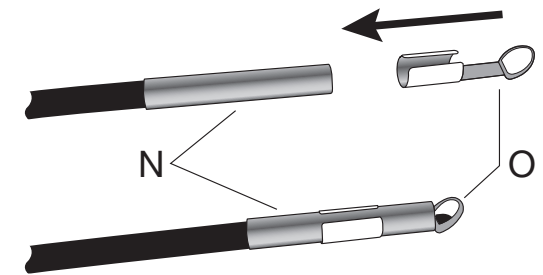

Fig. 5
- Mirror attachment (90°): refer to Figure 5 — when required, clip the 90° mirror attachment (O) to the camera end of the probe (N).